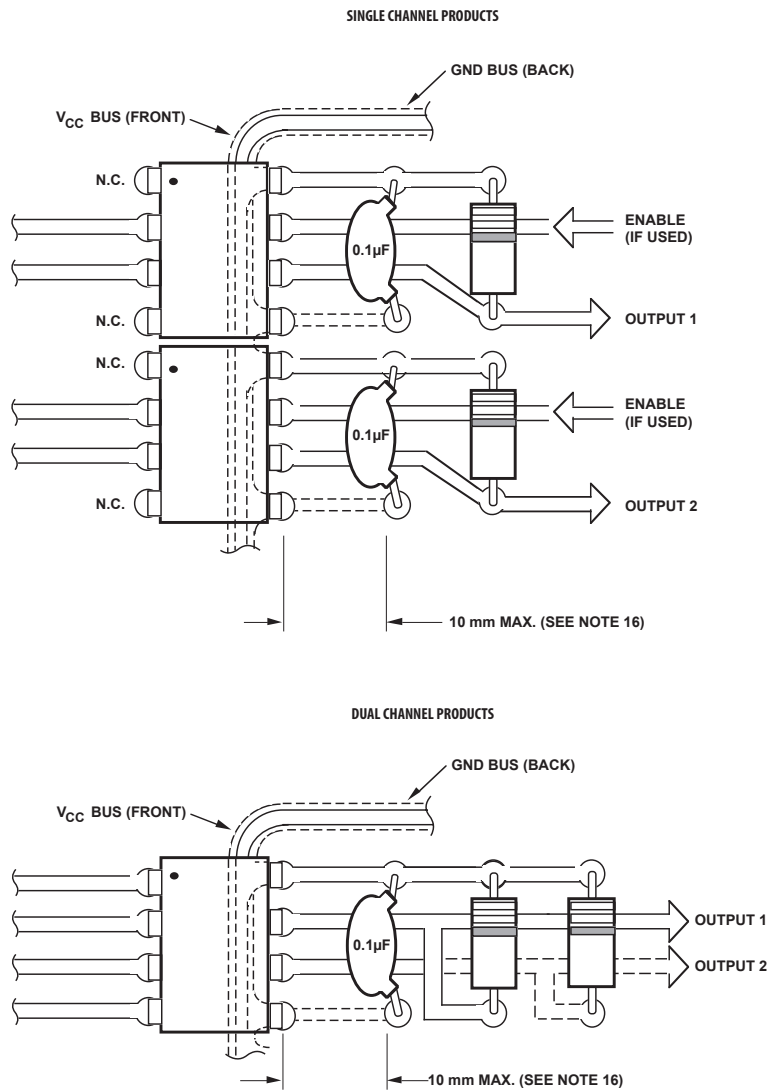

Figure 19. Recommended printed circuit board layout.
16. Bypassing of the power supply line is required with a 0.1 μF ceramic disc capacitor adjacent to each optocoupler as shown in Figure 19. Total lead length between both ends of the capacitor and the isolator pins should not exceed 10 mm.